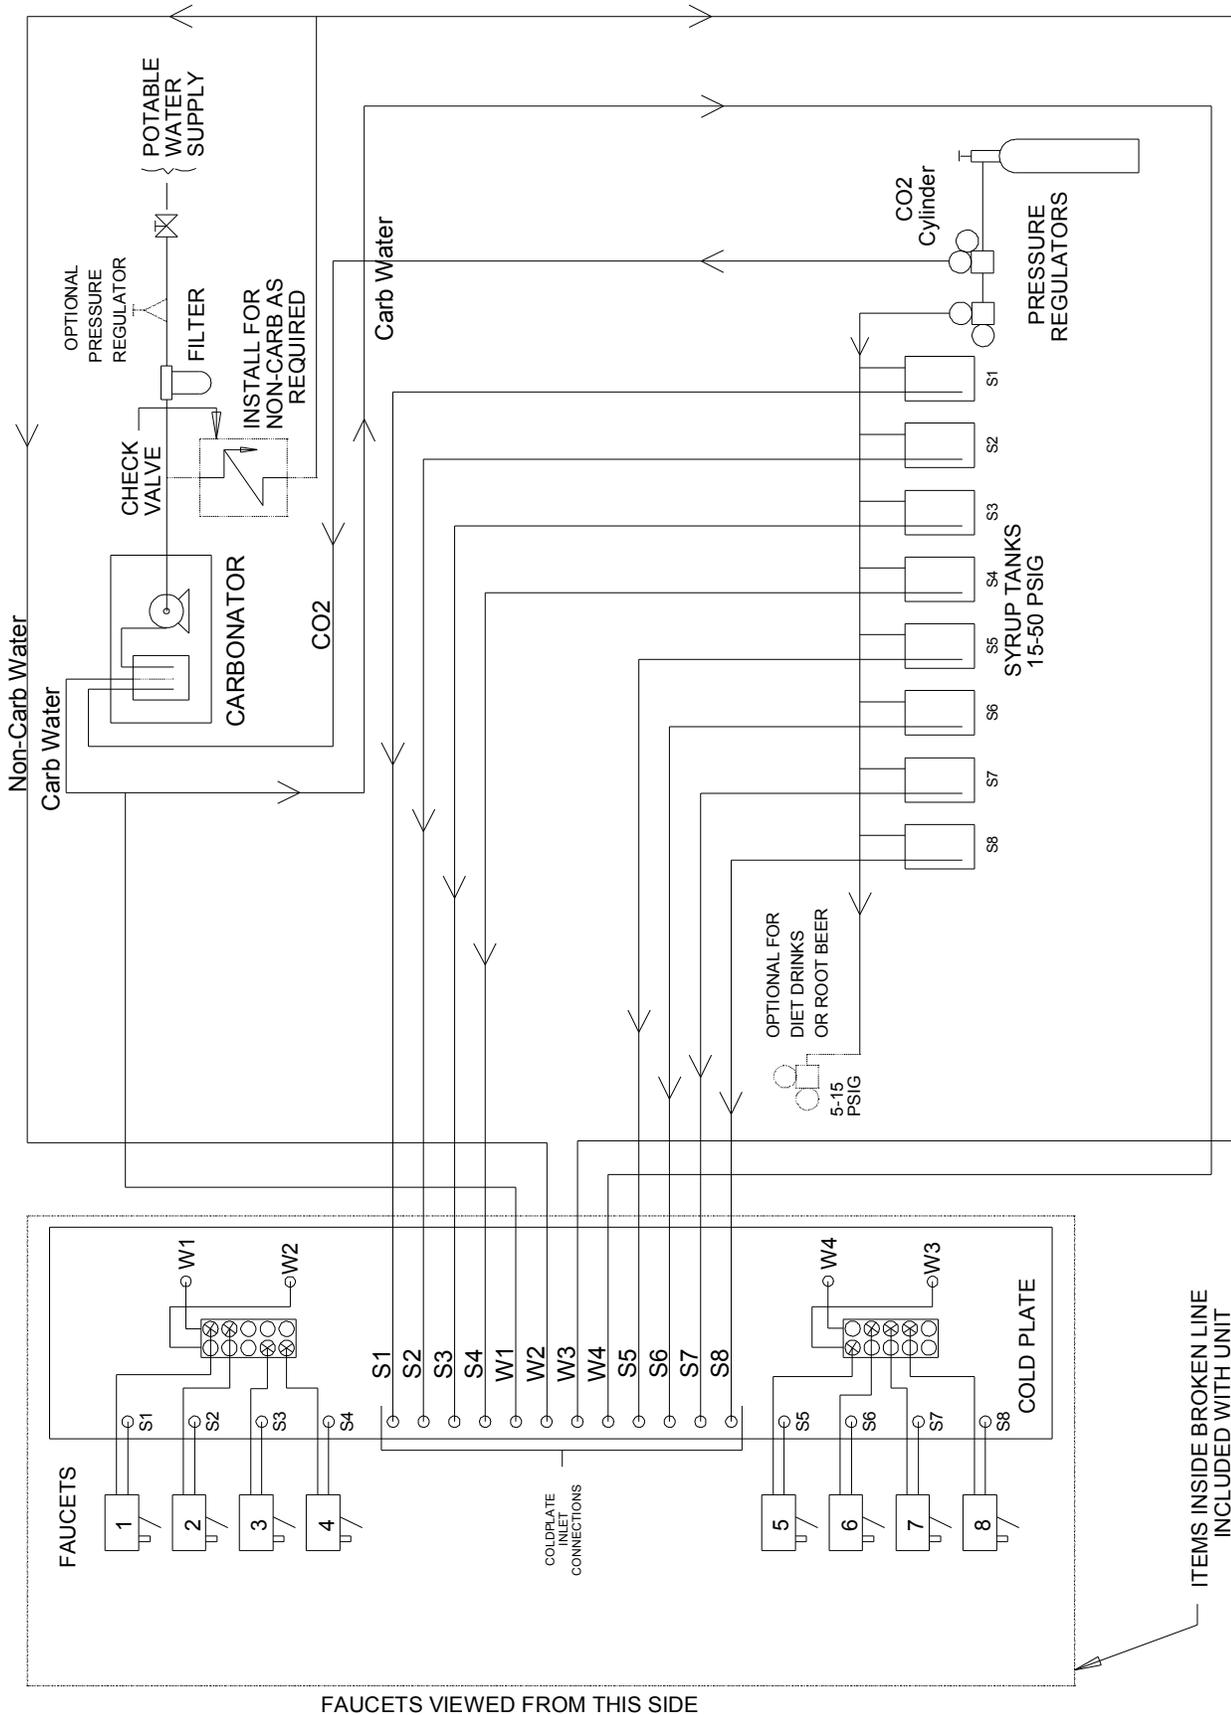

Figure 5. Flow Diagram (Unit With Eight Faucets)
**NOTE: See applicable Plumbing Diagram (see Figure 5 or 6) or Decal on the lower front panel of the unit for the location of syrup and water connections.**